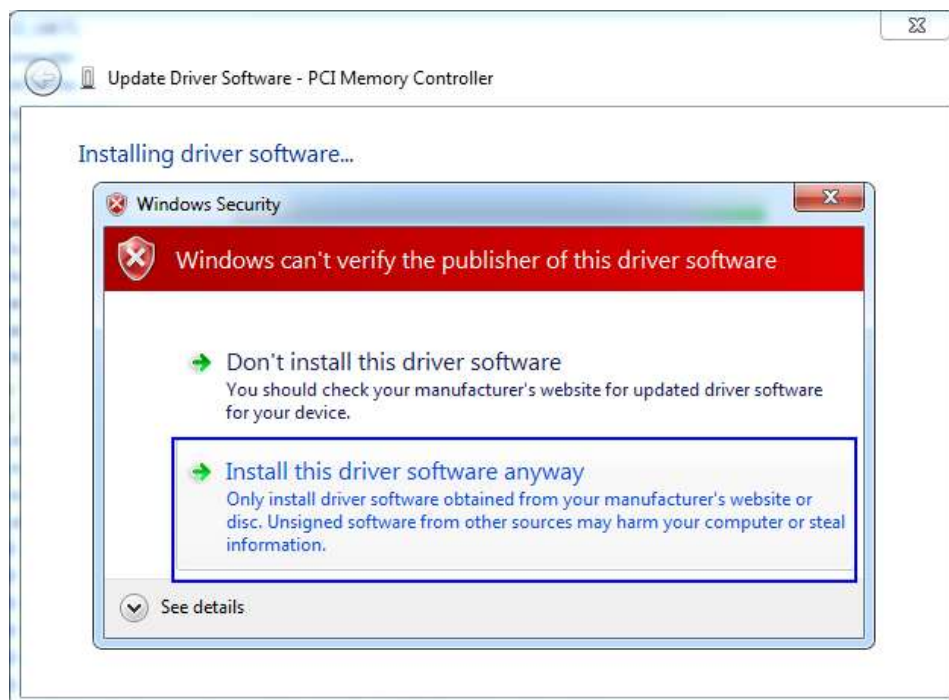

Figure 2.5. Windows Security Dialog
5. Select "Install the driver software anyway" from the pop-up window (Figure 2.5).